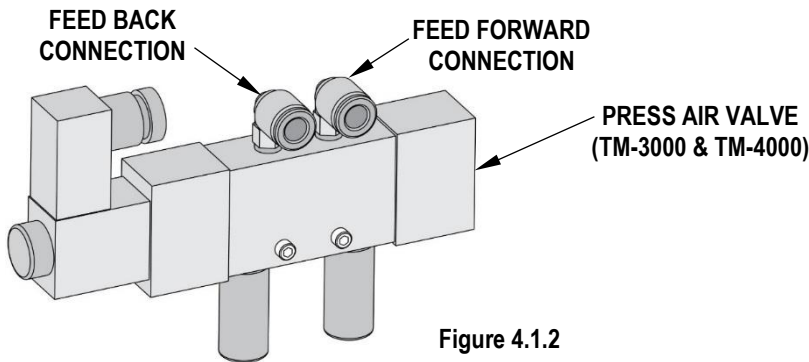

Figure 4.1.2
4. When using the TM-3000 or TM-4000 presses, connect the tubes to the press air valve as shown in Figure 4.1.2